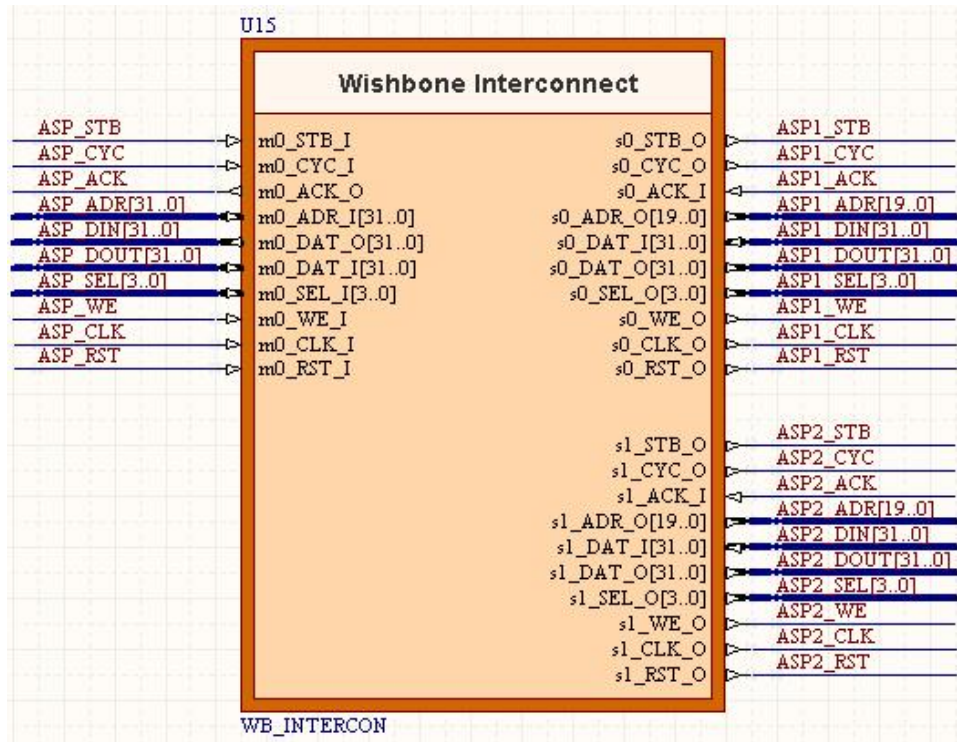

Figure 63. Wiring the ASP to interconnect to both memories
10. Wire the design as it appears Figure 63